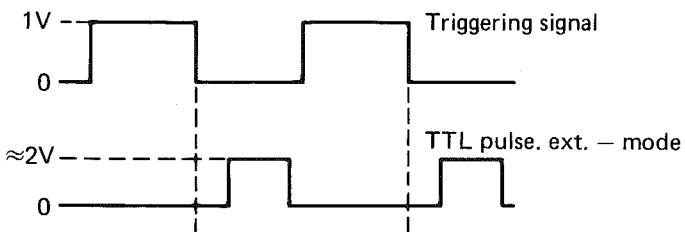

Fig 9.2. External triggering. EXT - mode
6. Check that oscilloscope displays waveform similar to fig 9.2.